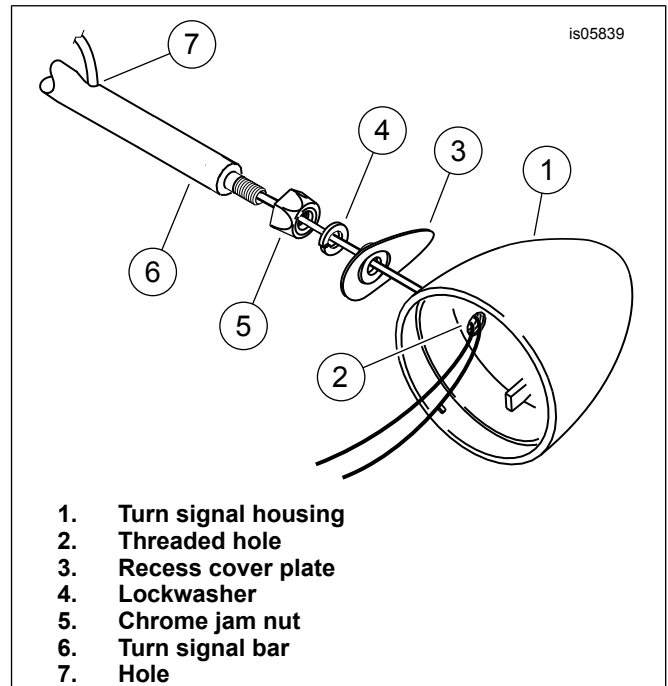

Figure 5. Turn Signal Bar
1. See Figure 5. Install a chrome jam nut (5) onto each end of the turn signal bar (6) with the counterbored side of the nut against the bar.
- a. Into the turn signal housing (1) and through the **threaded** hole (2).
- b. Through the recess cover plate (3).
- c. Through the **new** lockwasher (4).
- e. Out the hole (7) a short distance from the end of the bar.